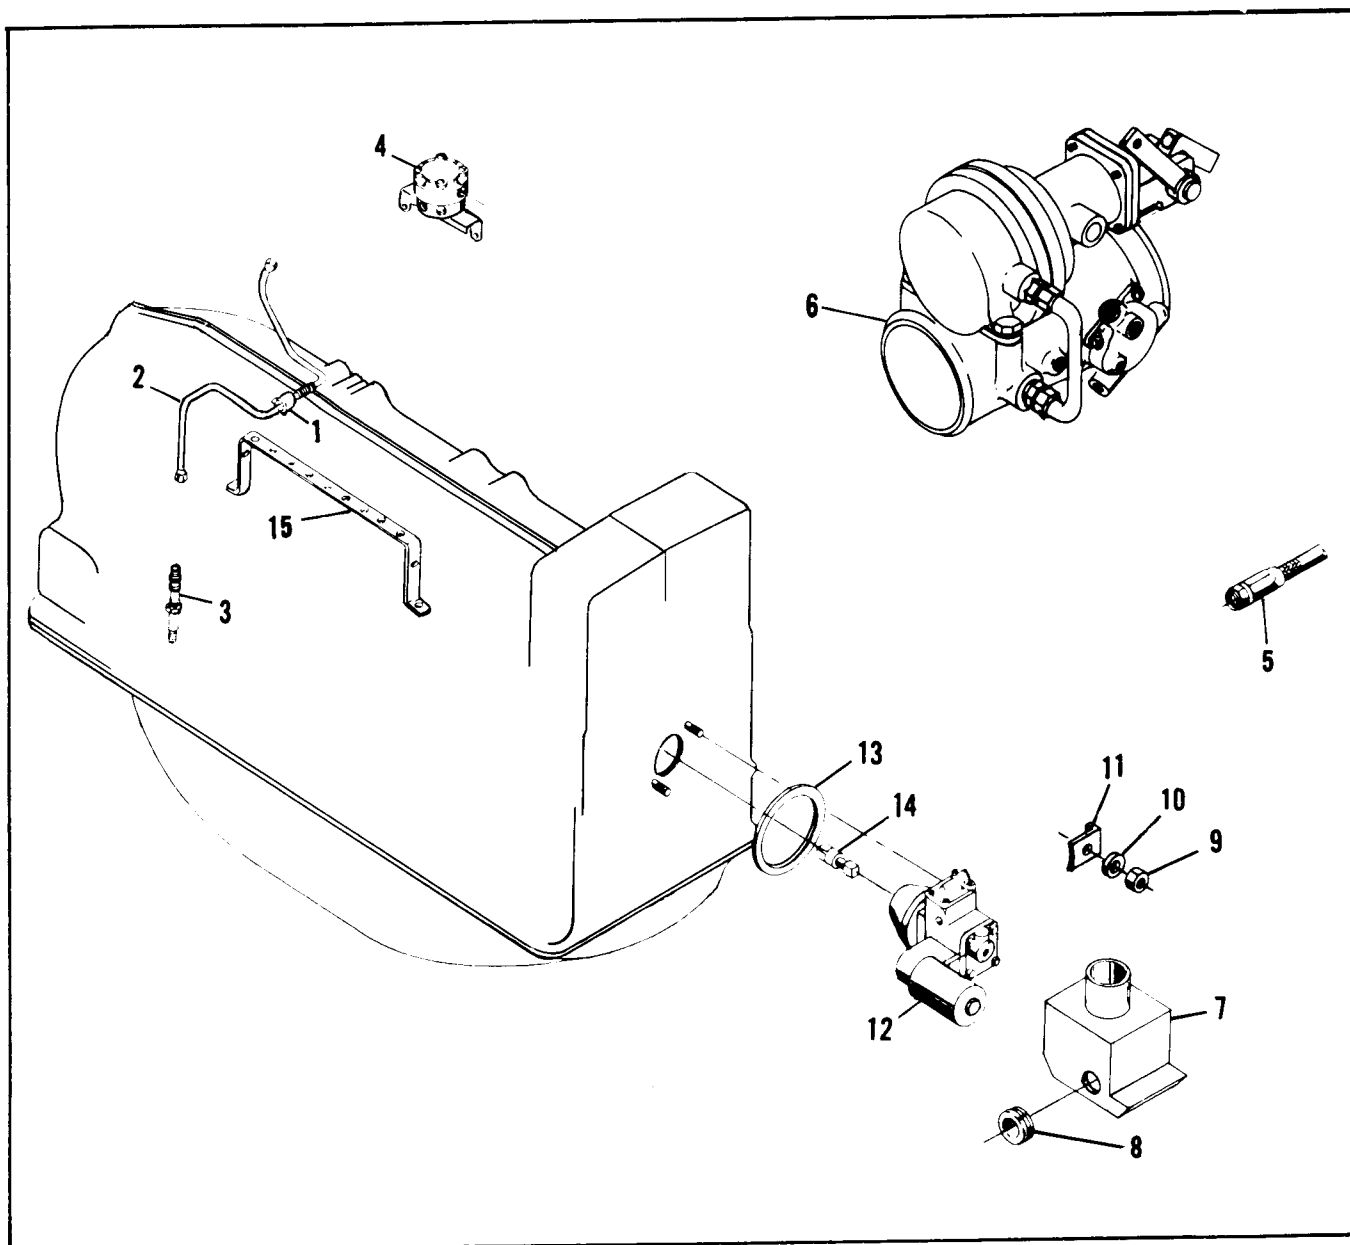
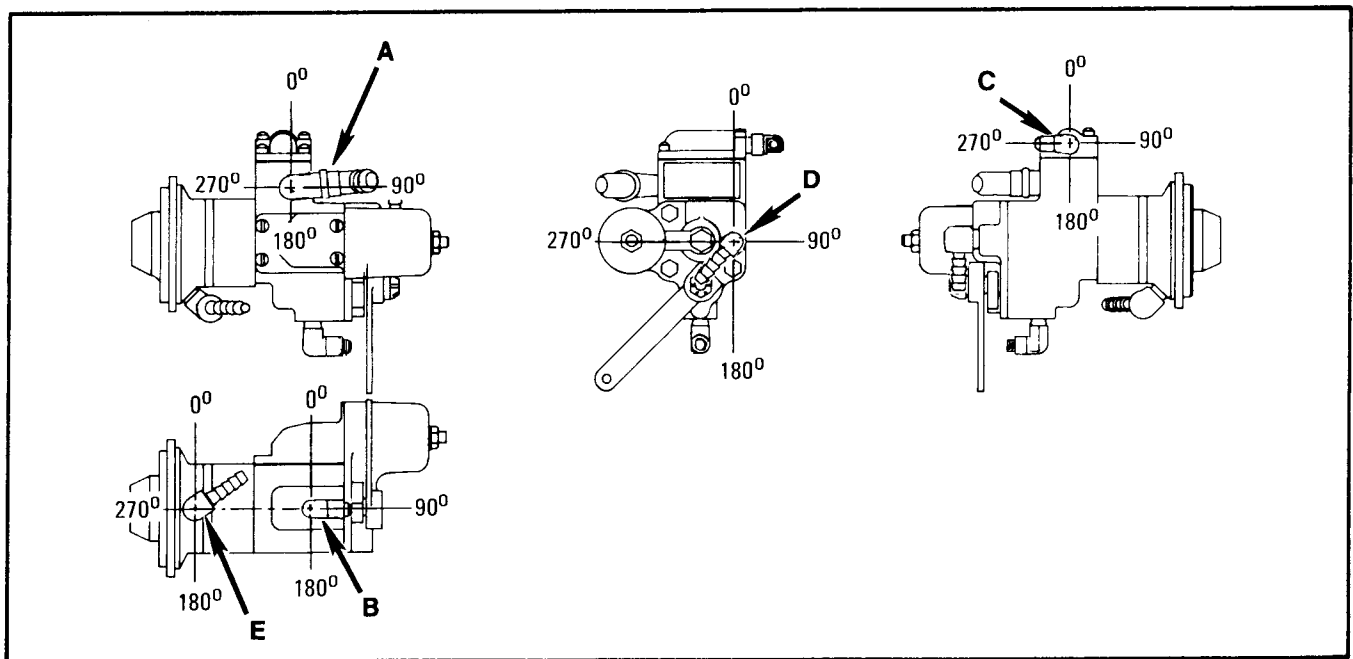
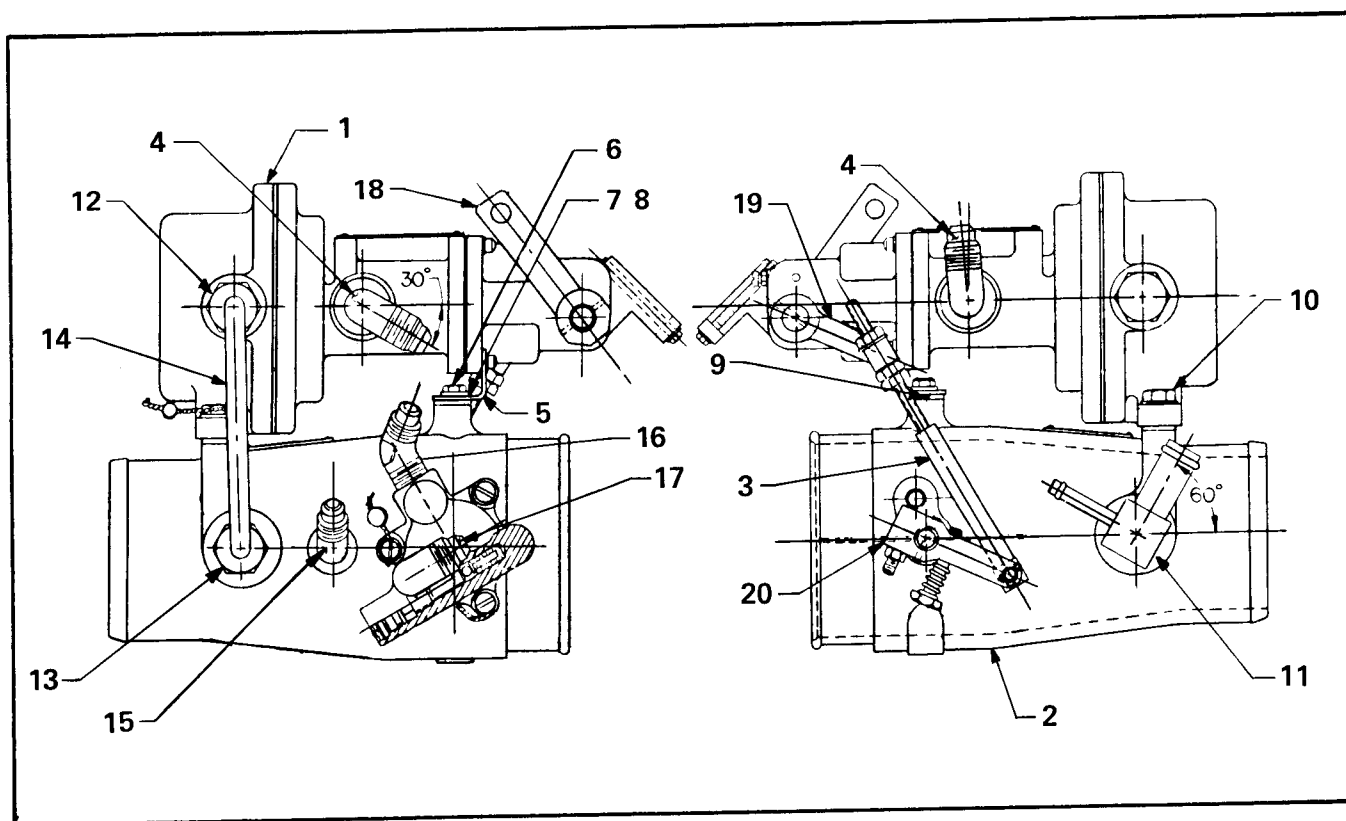

FIGURE 16-3 FUEL INJECTION SYSTEM
FIGURE 16-4. FUEL PUMP FITTING LOCATIONS
FIGURE 16-8. THROTTLE, CONTROLLER ASSEMBLY
16-10 FUEL INJECTION SYSTEM (See Figure 16-3)
- A. Remove hose assembly (6), fuel pump to fuel metering and hose, fuel pump to air throttle body.
- B. Remove attaching parts (10, 11, 12) and pull fuel pump (13) from crankcase. Separate shroud (8) from pump. Remove coupling (15) and gasket (14).
- C. The air throttle assembly (7) was removed with the induction system.
- D. Remove clamp (1) from bracket (16) and separate fuel discharge tube (2) from fuel manifold valve (4) and nozzle (3). Remove nozzles and fuel manifold valve.
- E. (See Fig. 16-8) Remove tube assembly (14) and linkage assembly (3).
- A. (See Fig. 16-8) Install fittings, if removed, in the attitude shown in figures 16-4, 16-5 and 16-8, being careful that no loose metal shavings get into the fuel stream.
- B. Install bracket (5) on controller (1) and install controller on throttle body. Secure with attaching parts (6 thru 10).
- C. Install adapter fittings (12, 13) and install tube assembly (14).
- D. (See Fig. 16-3) Install nozzles (3). Install sleeves over nozzles and attach fuel discharge tubes (2). Secure tube to bracket (16) with clamp (1). Attach discharge tubes to fuel manifold valve (4).
- E. Position shroud (8) on fuel pump (13). Lubricate coupling (15) and install in pump. Attach fuel pump to crankcase using new gasket (14) and secure with attaching parts (10, 11, 12).